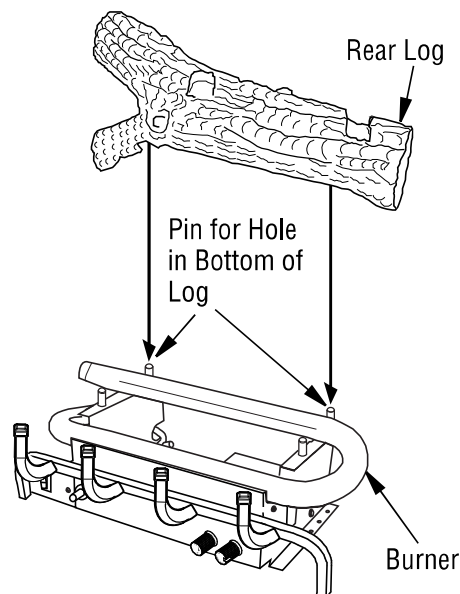

Figure 21 - Installing Rear Log
1. Place the rear log onto base. Notches in the back of the log must seat over the pins on base as shown in **Figure 21**. Make sure the rear log is pushed back as far as it will go.